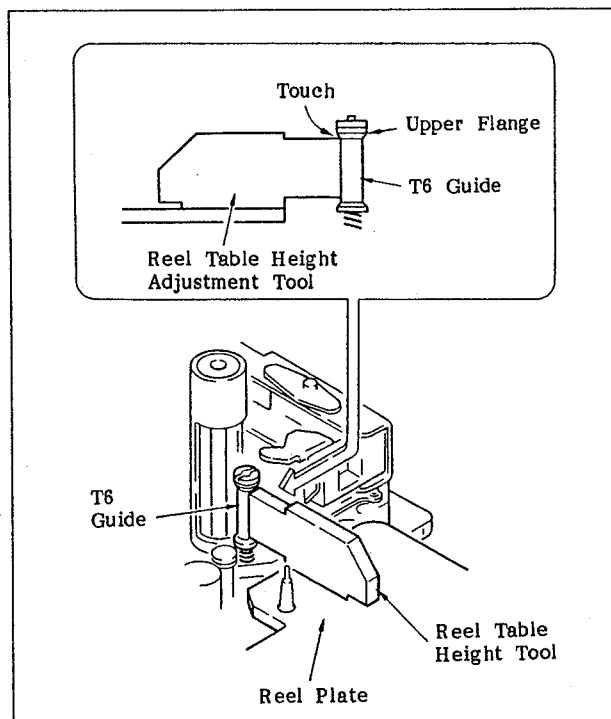
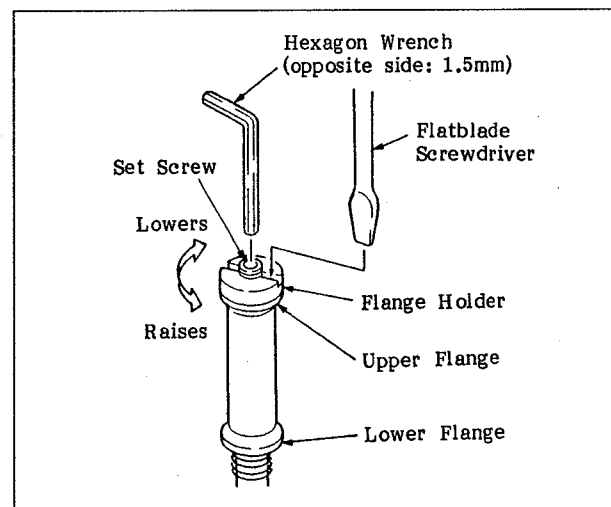
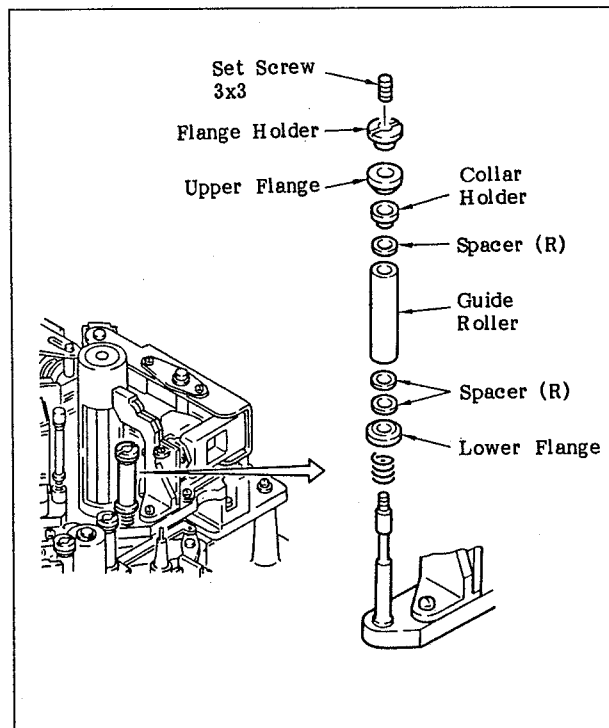

Fig. 6-121 Check of the Height of the T6 Guide
Fig. 6-122 Adjustment of the Height of the T6 Guide
Fig. 6-123 Replacement of the T6 Guide Roller
12. Push the reel table height adjustment tool against the T6 guide, as shown in Figure 6-121. Check that the tool is in contact with the upper flange. If it is not, adjust it by loosening the set screw that holds the T6 guide and by rotating the flange holder, as shown in Figure 6-122.
1. Remove the guide roller by rotating the flange holder and replace the guide roller with a new one. (Figure 6-123)
3. If it is not satisfied, adjust it by changing the number of spacers (R) (Sony Part No. 3-715-809-11), shown in Figure 6-123.
**Note:** At least one spacer (R) must be inserted between the lower flange and the guide roller.
6. Push the reel table height adjustment tool against the T6 guide by referring to Figure 6-121. Check that the tool is in contact with the upper flange. If it is not, adjust it by loosening the set screw and rotating the flange holder.